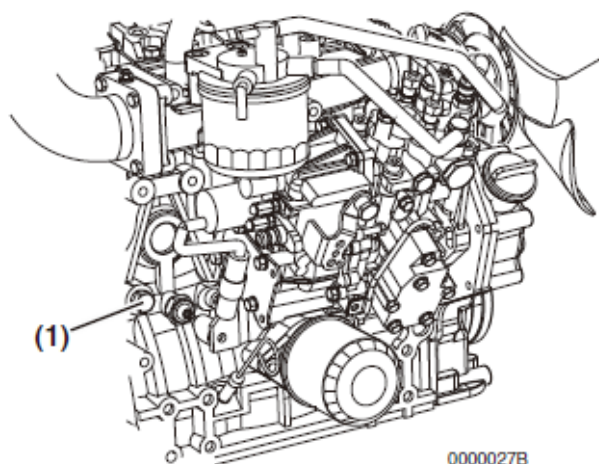

Fig.9-17
4. Drain the coolant from the engine block. remove the coolant drain plug (**Fig.9-17, (1)**) from the engine block.